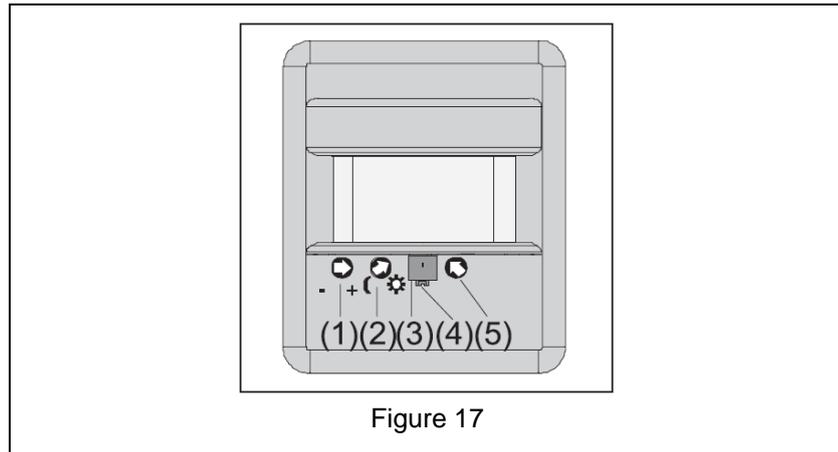

Figure 17
You can set the shut-off delay within a range from 10 seconds to approx. 30 minutes. This setting is not linear, i. e. longer periods can only be preset within a relatively coarse raster. To vary the shut-off delay, turn potentiometer (5) into the desired direction (Fig. 17).